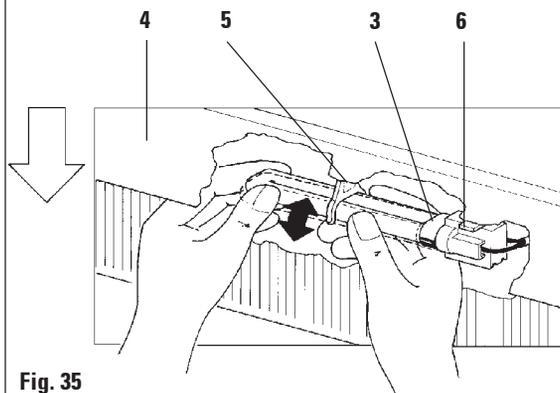

Fig. 35
- Hold the lamp in the correct mounting position as shown (Fig. 35) and push it to the right until it engages in the holder.